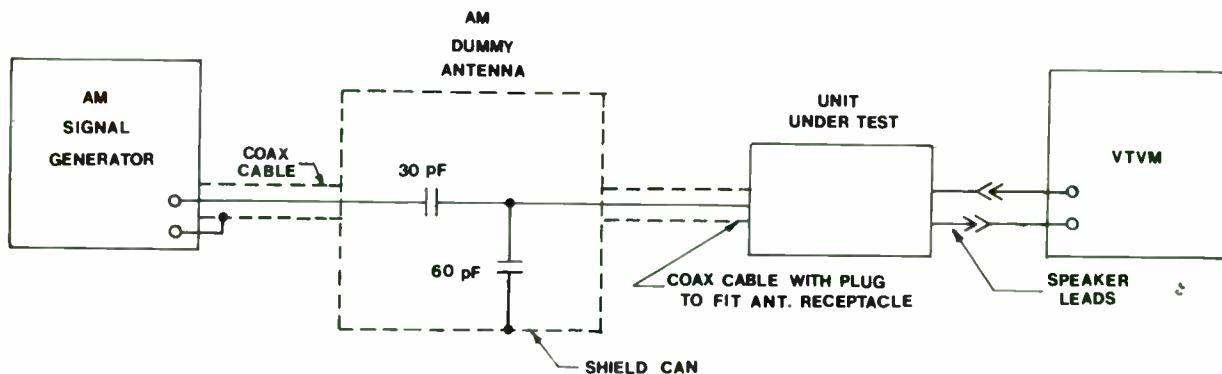

Figure 5 – Test connections for AM IF and RF alignment.
- Dummy Antenna (See Fig. 5)
A. Make connections as shown in Fig. 5: